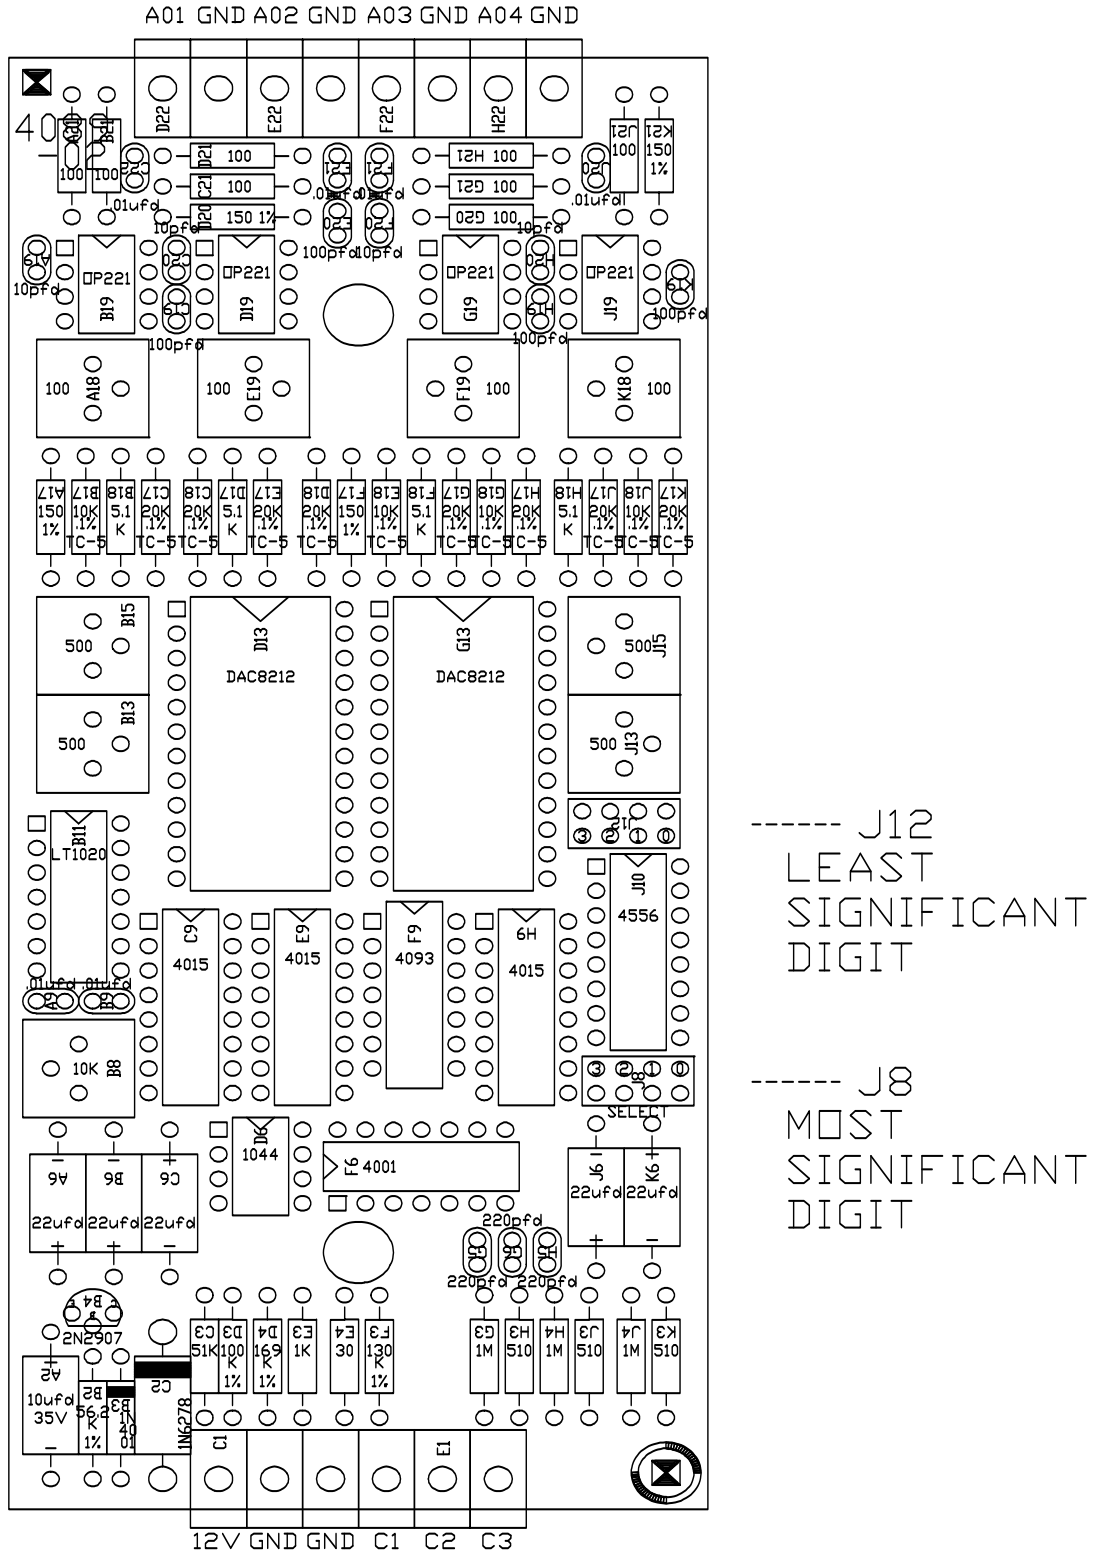

FIGURE 2. Locational Diagram for the Address Jumpers.
The SDM-AO4 has sixteen possible addresses, as shown in Table 2. The address for an SDM-AO4 is hardware selectable using jumpers at locations J12 and J8, as shown in Figure 2. The jumper at location J12 represents the least significant digit (LSD), and the jumper at location J8 is the most significant digit (MSD). The digit zero (0) is nearest the edge of the board, and the digit three (3) is the innermost jumper on the board. All SDM-AO4s are shipped with the address set at zero (00).